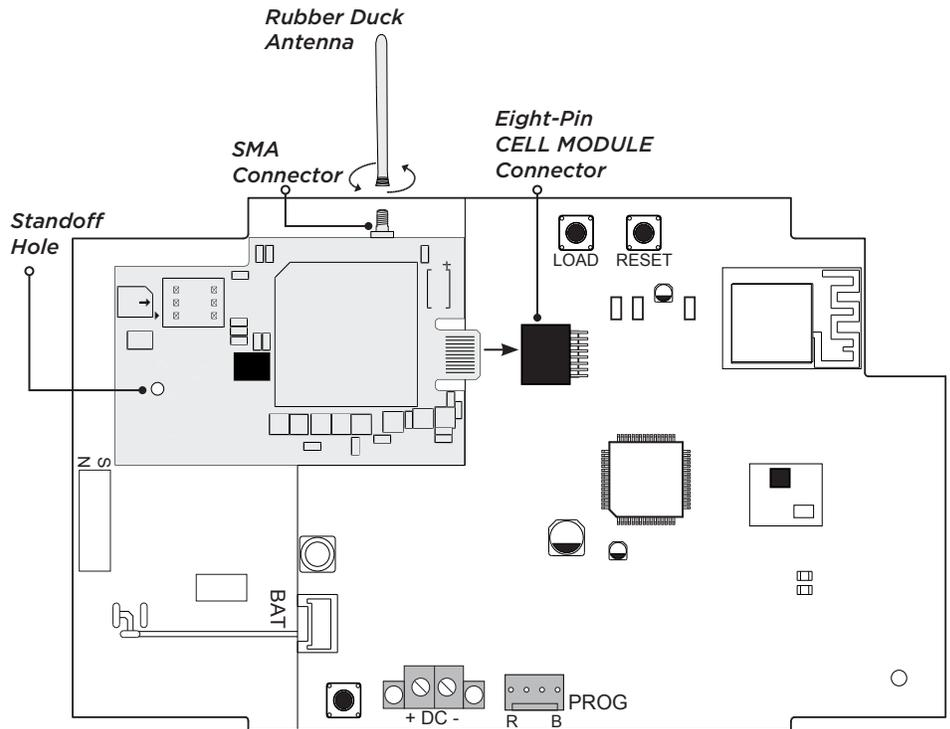

Figure 2: Install the 265C on the XTLplus
5. Align the standoff hole in the 265C with the standoff on the XTLplus and snap it into place. See Figure 2.